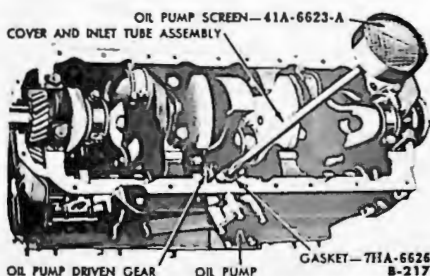

Fig. 5—Oil Pump and Screen
(1) **OIL PUMP.** An externally mounted rotor type oil pump (fig. 5) is used on the "H" and "M" engines. Instead of the gear type as used on the "G" engine. The oil pump is driven off a gear provided on the camshaft (fig. 2). The driven gear on the oil pump is provided with internal splines which drive the distributor shaft.